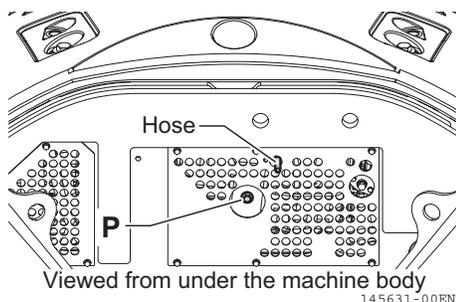

Fig. 8-59
1. Swing the upperstructure so that the drain plug (**Fig. 8-59, P**) at the bottom of the engine will be positioned in the middle of the right and left crawlers.
2. Place the container for waste oil under the drain plug (**Fig. 8-59, P**) and hose at the bottom of the machine body.
3. Slowly remove the drain plug (**Fig. 8-59, P**) using a tool with a width across flats of 0.75 in. (19 mm) so that the oil will not splash your body, and drain the waste oil. Check the waste oil, and contact your dealer if a lot of metallic particles or foreign objects are mixed in it.
4. Reinstall the drain plug (**Fig. 8-59, P**).